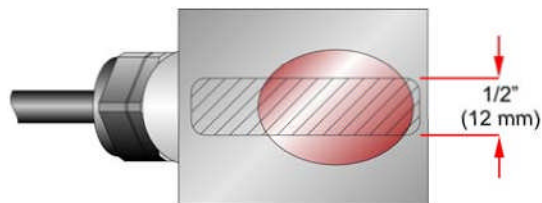

Figure 2.2
1. For HTTN transducers, place a single bead of couplant, approximately 0.5 inch (12 mm) thick, on the flat face of the transducer. See **Figure 2.2**. Generally, a silicone-based grease is used as an acoustic couplant, but any grease-like substance that is rated not to “flow” at the temperature that the pipe may operate at, will be acceptable.
5. For HTTN transducers, place a single bead of couplant, approximately 0.5 inch (12 mm) thick, on the flat face of the transducer. See **Figure 2.2**. Generally, a silicone-based grease is used as an acoustic couplant, but any grease-like substance that is rated to not “flow” at the temperature that the pipe may operate at, will be acceptable.
4. Place a single bead of couplant, approximately 0.5 inch (12 mm) thick, on the flat face of the transducer. See **Figure 2.2**.